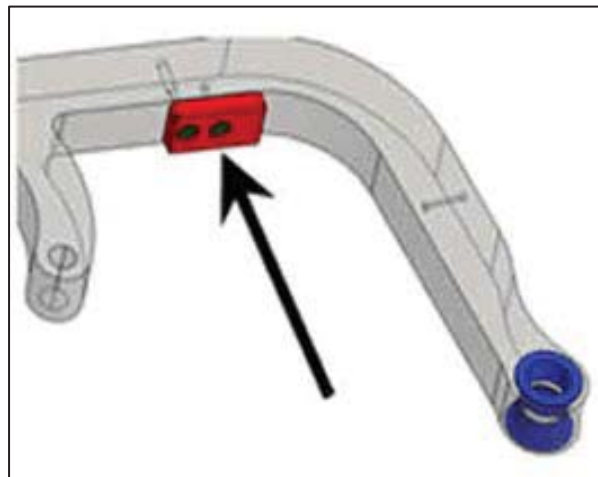

Figure 10
- 8) Inspect the door stopper to make sure it is oriented properly. (Fig. 10)